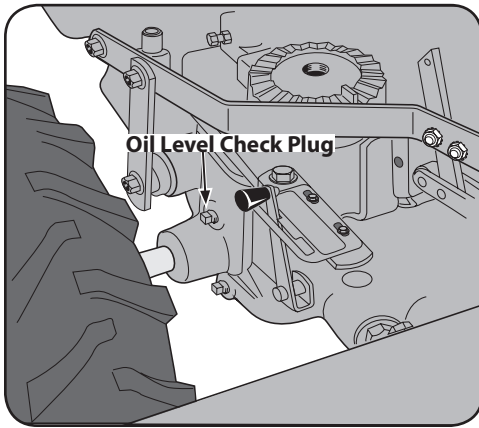

Figure 5-6
4. Use a $\frac{3}{8}$ " wrench to remove the oil level check plug on the left side of the transmission housing. See Figure 5-6.
2. Remove the dipstick from the tine attachment. See Figure 5-6.